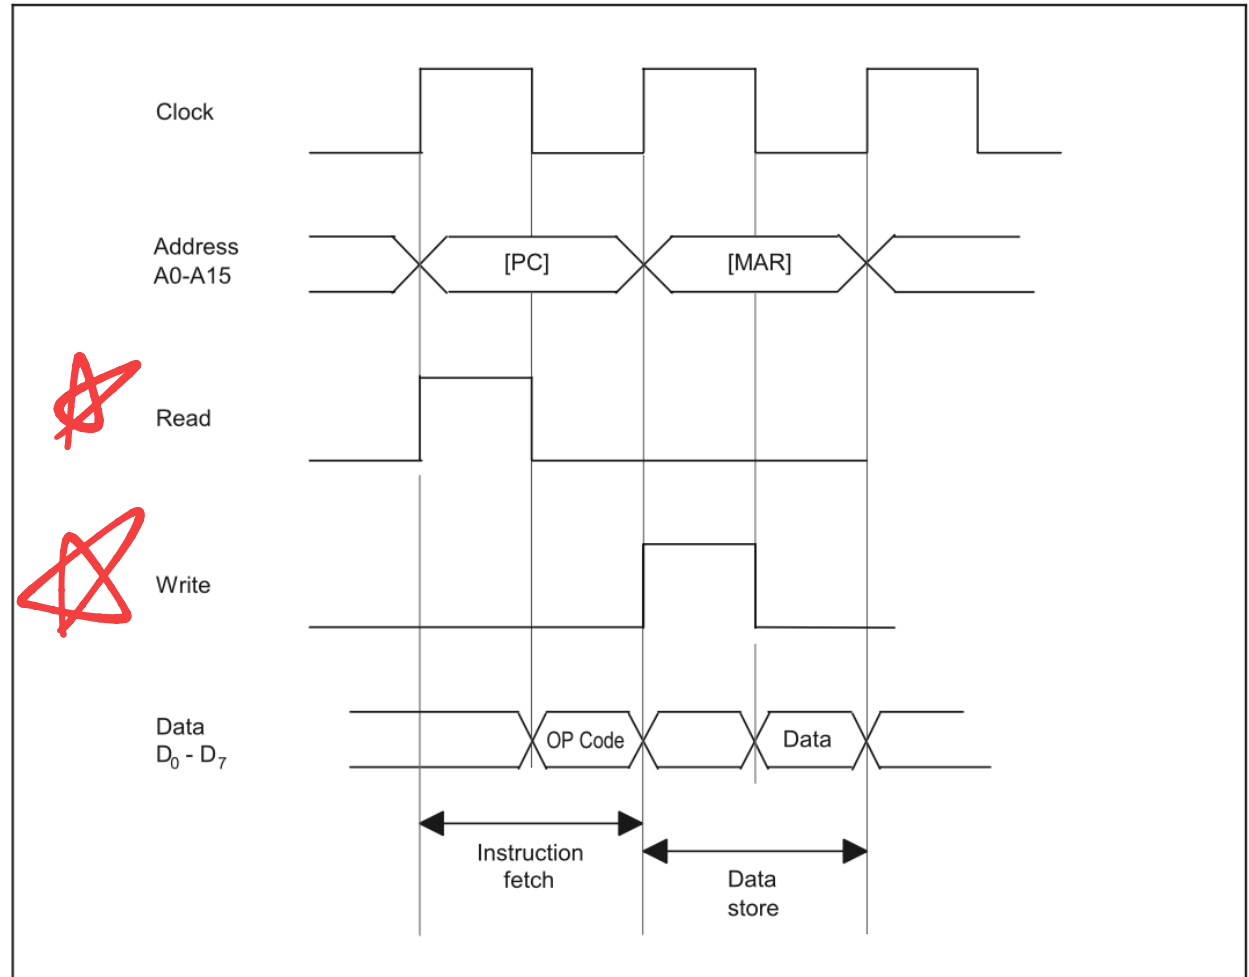

FIGURE 3.5 Typical memory WRITE timing diagram.
- Figure 3.5 shows a typical WRITE timing diagram.